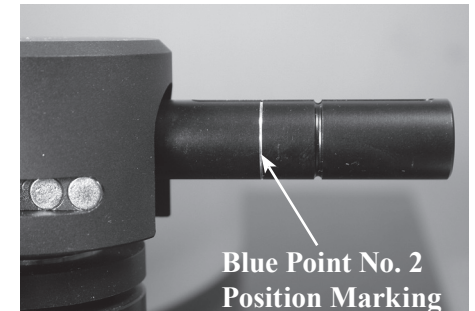

Figure 16
12. Position the Counterweight on the Tone Arm so the front surface of the Counterweight lines up with the Blue Point No. 2 Cartridge position marking on the surface at the rear of the Tone Arm. Tighten the knurled knob to secure the position of the Counterweight. Refer to figures 16, 17 and 18.